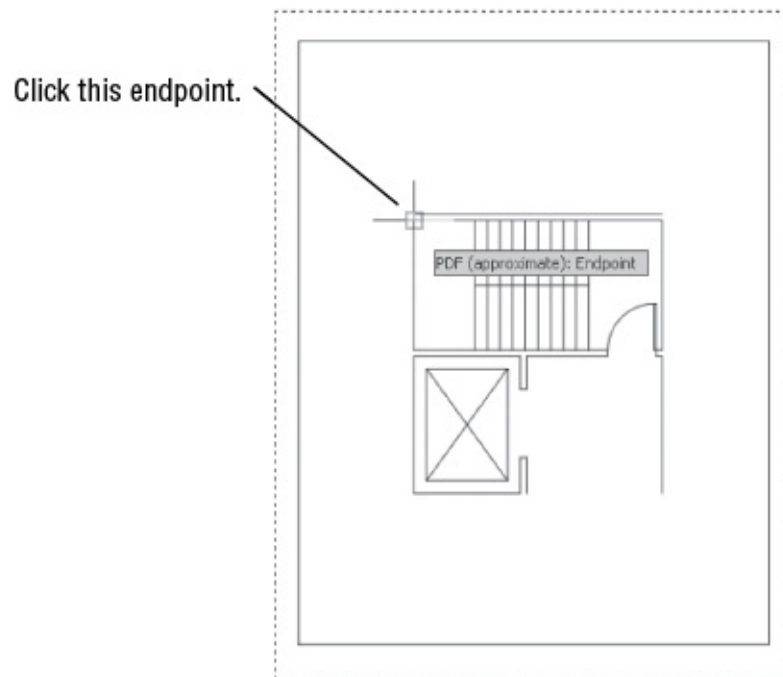

FIGURE 13.11 Selecting the first endpoint of the line for the Scale command
3. At the Specify base point: prompt, turn on the osnaps and select the left endpoint of the horizontal line near the top of the drawing, as shown in Figure 13.11.